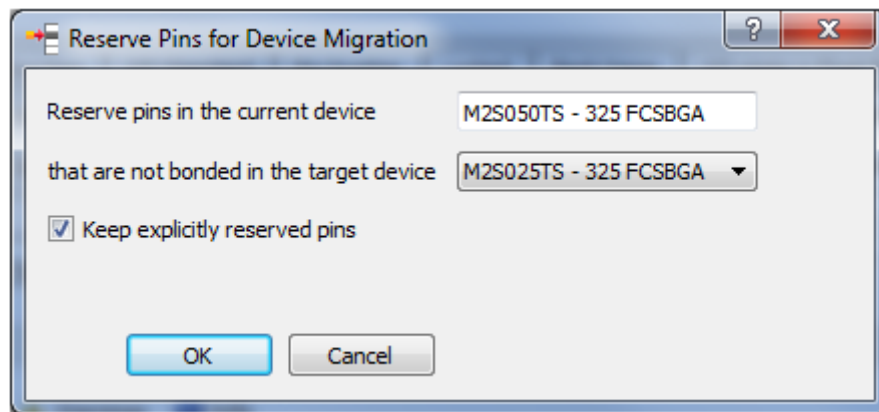

Figure 4 • Reserve Pins for Device Migration
2. Select the **Reserve Pins for Device Migration** option from the Tools menu. The window shown below in Figure 4 is displayed.